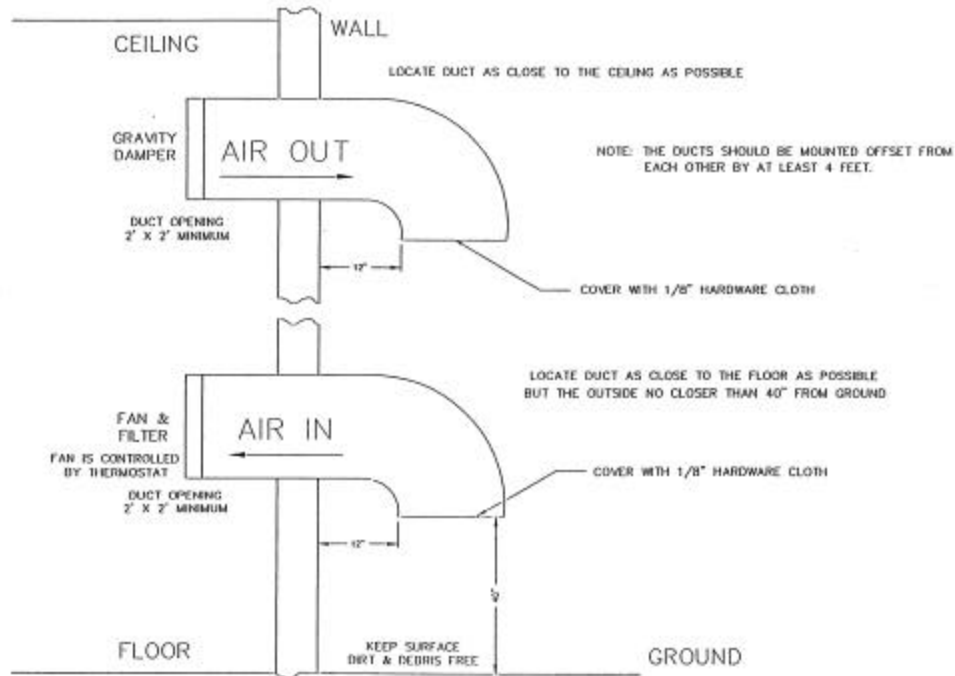

Figure 3-1. 1 kW Minimum Ventilation Configuration
- The information presented in this section is intended to serve only as a general guide and may need to be modified for unusually severe conditions. A combination of air conditioning and ventilation should not be difficult to design (see Figure 3-1). System interlocking and thermostat settings should be reviewed with Axcera.
- As with any equipment installation, it is always good practice to consult the manufacturer when questions arise. The field support department at Axcera can be contacted at (724) 873-8100.